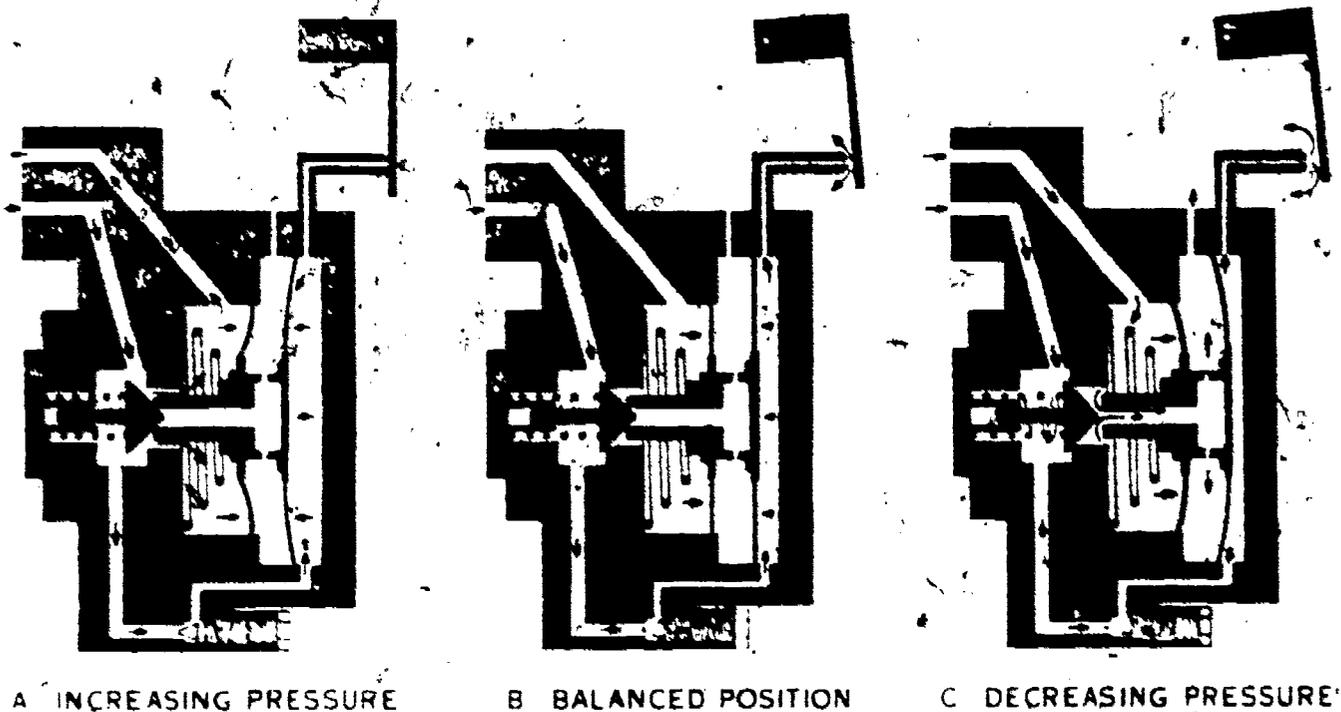

Figure 8. Direct Acting Proportional Relays
**DIRECT ACTING.** A relay that increases output pressure when pilot air increases, figure 8.